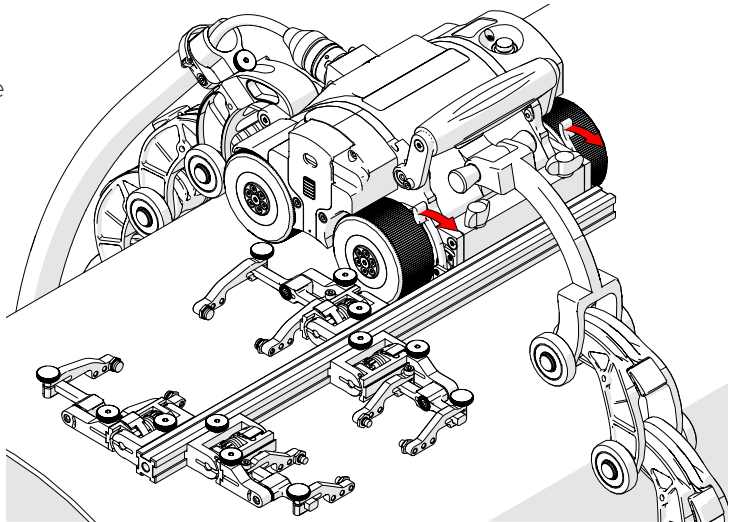
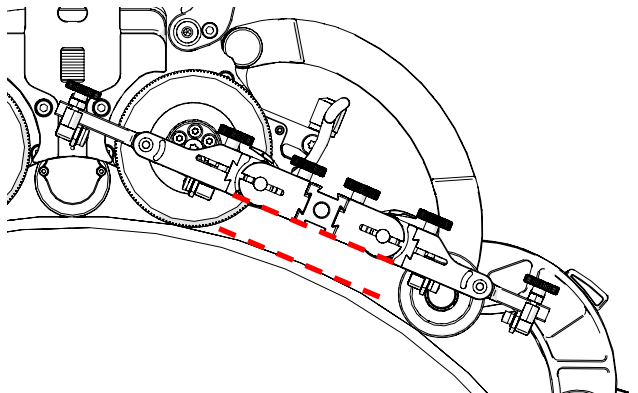

Fig. 171 - Release swivel mount levers
Fig. 172 - Correct swivel mount position
14. Release the swivel mount levers (Fig. 171) to pivot the swivel mount to a position parallel to the scan surface (Fig. 172) (see "Swivel Mount" on page 30 for additional details).